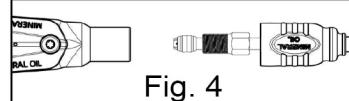

Fig. 4
④ Install the rubber boot, flare bolt, and olive along the hose in order (Fig. 4)